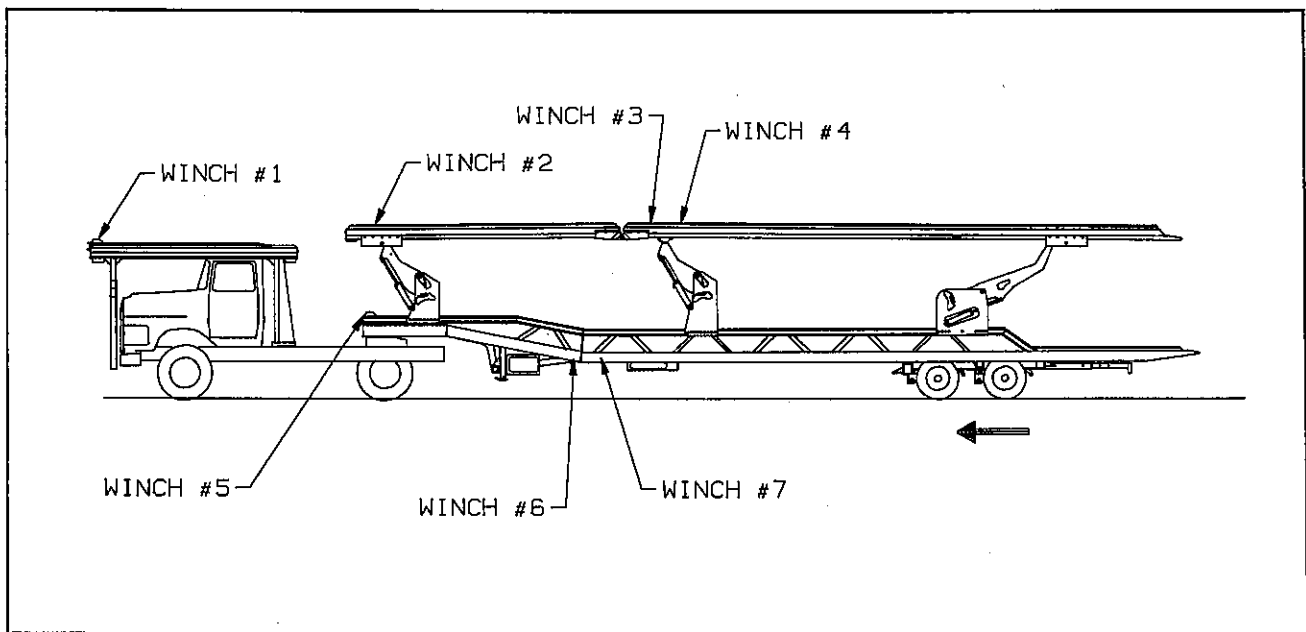
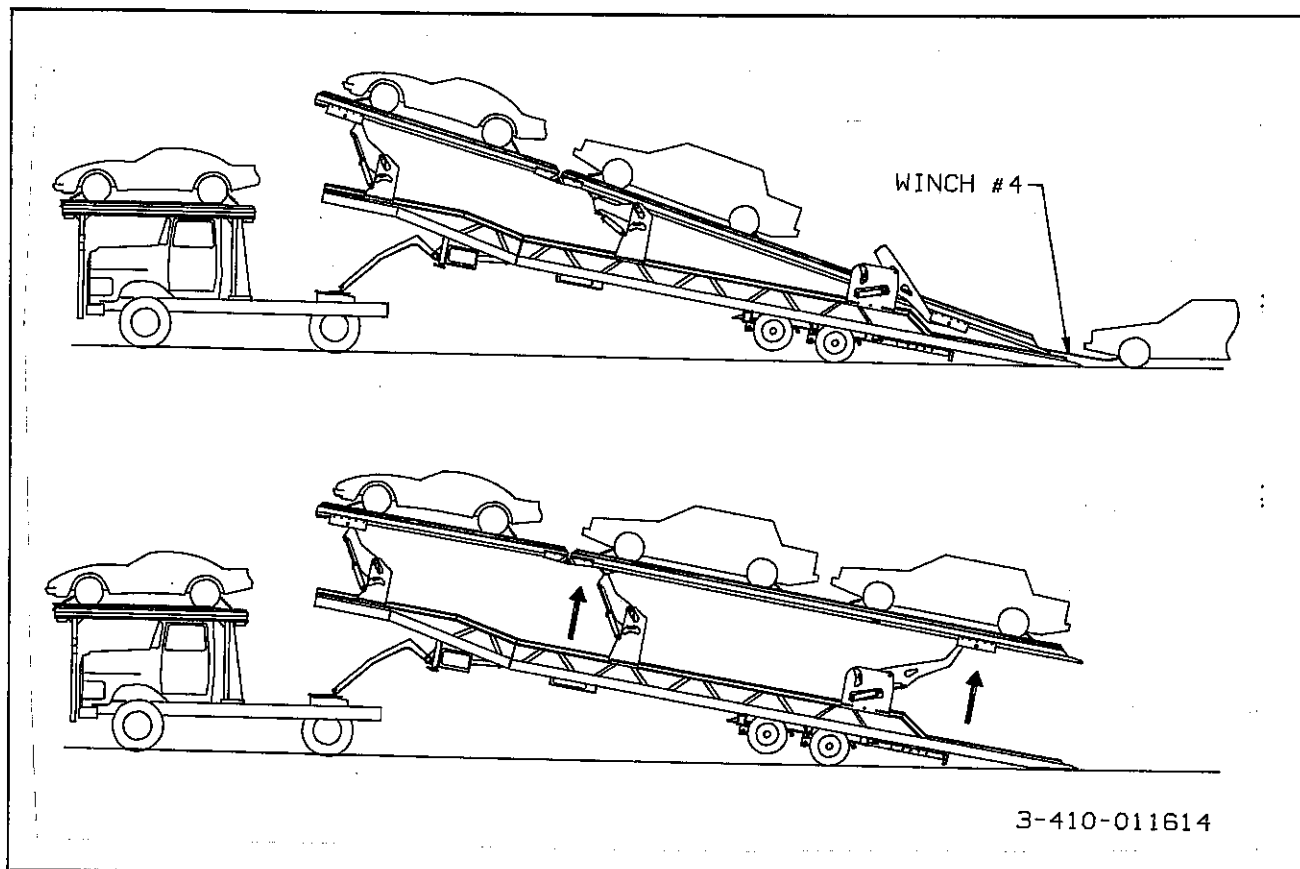

Figure 3-6 Preparation for Loading
Figure 3-10 Loading the Upper Deck
a. Park the tractor/trailer in a straight line on a level even surface. Set the tractor brakes and release the semitrailer brakes. (See Figure 3-6.)
h. Prepare the first vehicle to be winched onto the trailer. Connect winch #2 (see Figure 3-6) to the first vehicle and pull it to the front of the upper deck. Secure the vehicle so it will not roll forward or backward.
- f. Connect winch #2 (see Figure 3-6) to the next vehicle and pull it to the front of the upper deck. Make sure there is adequate clearance between the over-cab vehicle and the vehicle on the trailer to allow for swing clearance. 2-1/2 feet clearance is usually required. Secure vehicle with chains (see paragraph 3-11.7).
- g. Free-wheel the winch cable from winch #4 (see Figure 3-6) out until it is at the rear of the upper deck so it is accessible after loading the next vehicle.
- h. Connect winch #3 (see Figure 3-6) to the next vehicle and pull it to the center position on the upper deck. Secure with chains (see paragraph 3-11.7).
- i. Connect winch #4 (see Figure 3-6) to the next vehicle and pull it to the rear position on the upper deck. (See Figure 3-10.) Secure with chains (see paragraph 3-11.7).
c. Connect winch #5 (see Figure 3-6) to the next vehicle and pull it to the front of the lower deck as far as
d. Free-wheel the winch cable from winch #7 (see Figure 3-6) out until it is at the rear of the lower deck so it is accessible after loading the next vehicle.
e. Connect winch #6 (see Figure 3-6) to the next vehicle and pull it to the center position on the lower deck. Secure with chains (see paragraph 3-11.7).
f. Connect winch #7 (see Figure 3-6) to the next vehicle and pull it to the rear position on the lower deck. Secure with chains (see paragraph 3-11.7).
h. Reel out winch #1 (see Figure 3-6) to allow the vehicle to move off of the Over-the-cab deck and onto the trailer upper deck.
i. After the vehicle is completely on the trailer bed, secure the vehicle so winch #1 (see Figure 3-6) can be disconnected and winch #2 (see Figure 3-6) can be connected to the vehicle.